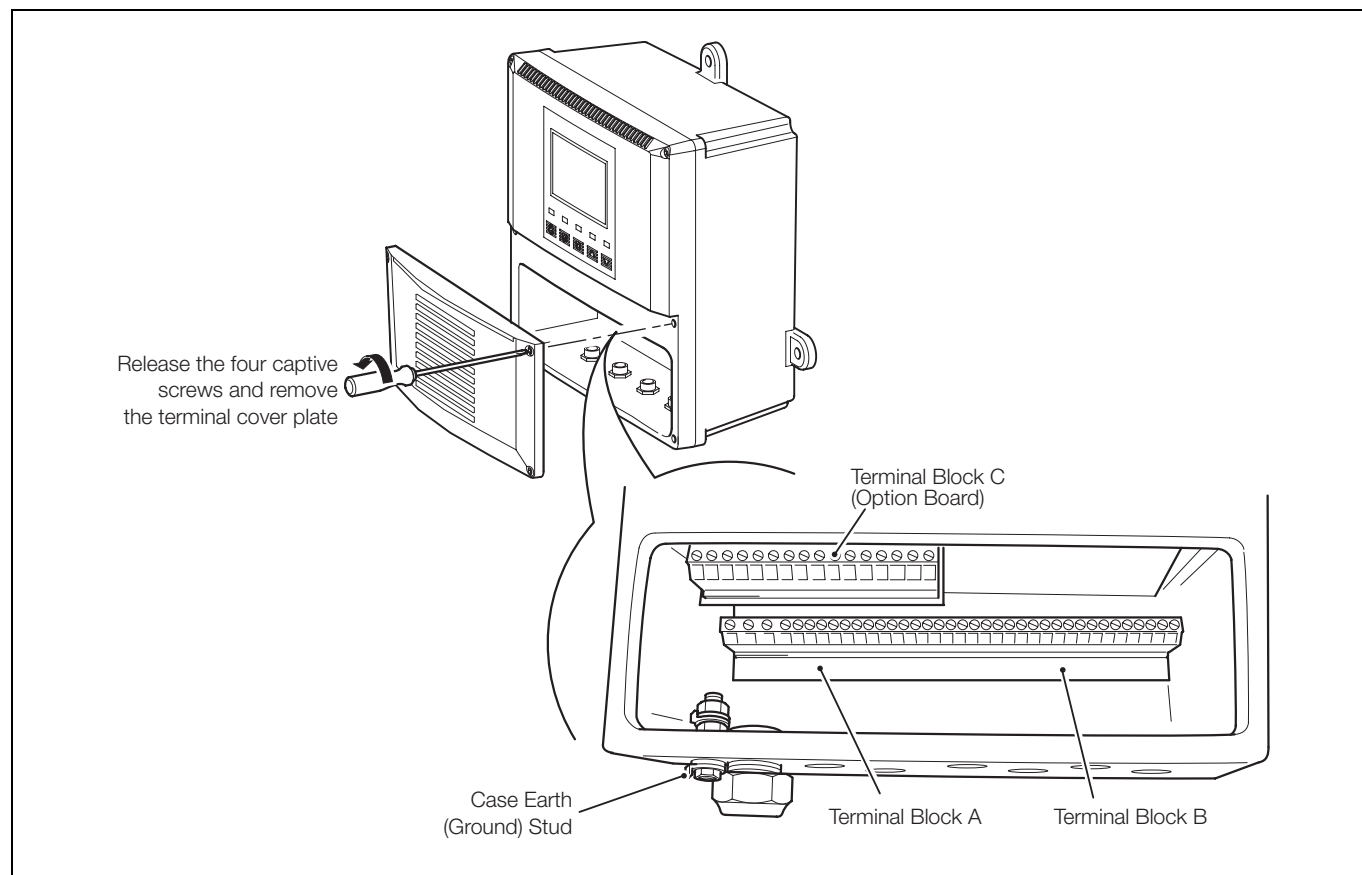
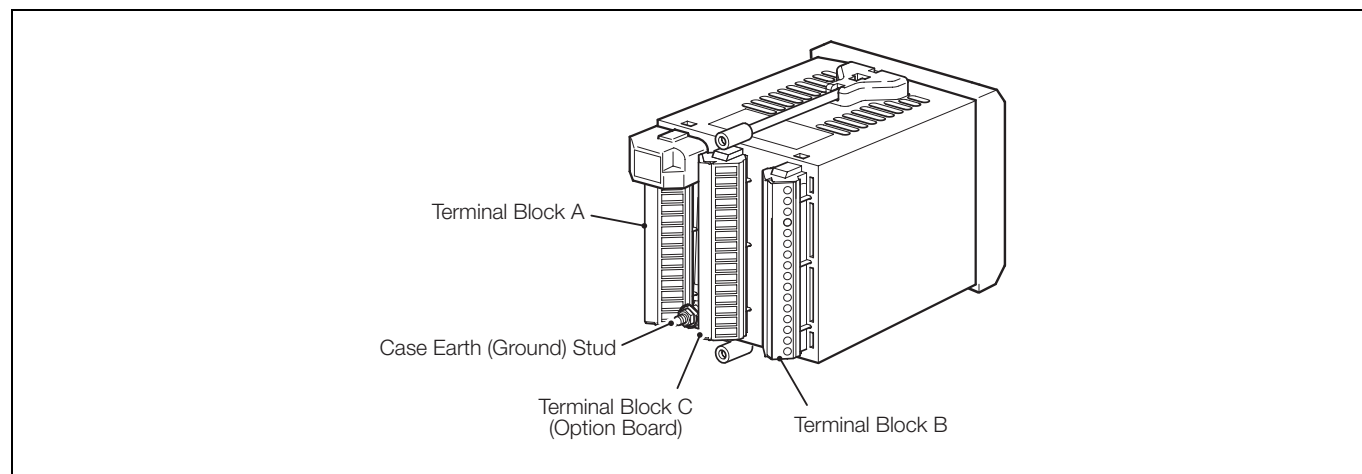

Fig. 6.8 Access to Terminals, Wall-/Pipe-mount Analyzer
Fig. 6.10 Access to Terminals, Panel-mount Analyzers
- The power supply earth (ground) **must** be connected to the earth (ground) stud on the analyzer case – see Fig. 6.8 (wall-/pipe-mount analyzers) or Fig. 6.10 (panel-mount analyzers).
- An earthing (grounding) – stud terminal is fitted to the analyzer case for bus-bar earth (ground) connection – see Fig. 6.8 (wall-/pipe-mount analyzers) or Fig. 6.10 (panel-mount analyzers).
- b. Connect the millivolt source to terminals B14 (–ve) and B16 (+ve) to simulate the pH or Redox input. Connect the millivolt source earth to the Case Earth (Ground) Stud – see Fig. 6.8 (wall-/pipe-mount analyzer) or Fig. 6.10 (panel-mount analyzer).
- b. Connect the millivolt source to terminals B6 (–ve) and B8 (+ve) to simulate the pH or Redox input. Connect the millivolt source earth to the Case Earth (Ground) Stud – see Fig. 6.8 or (wall-/pipe-mount analyzer) or Fig. 6.10 (panel-mount analyzer).